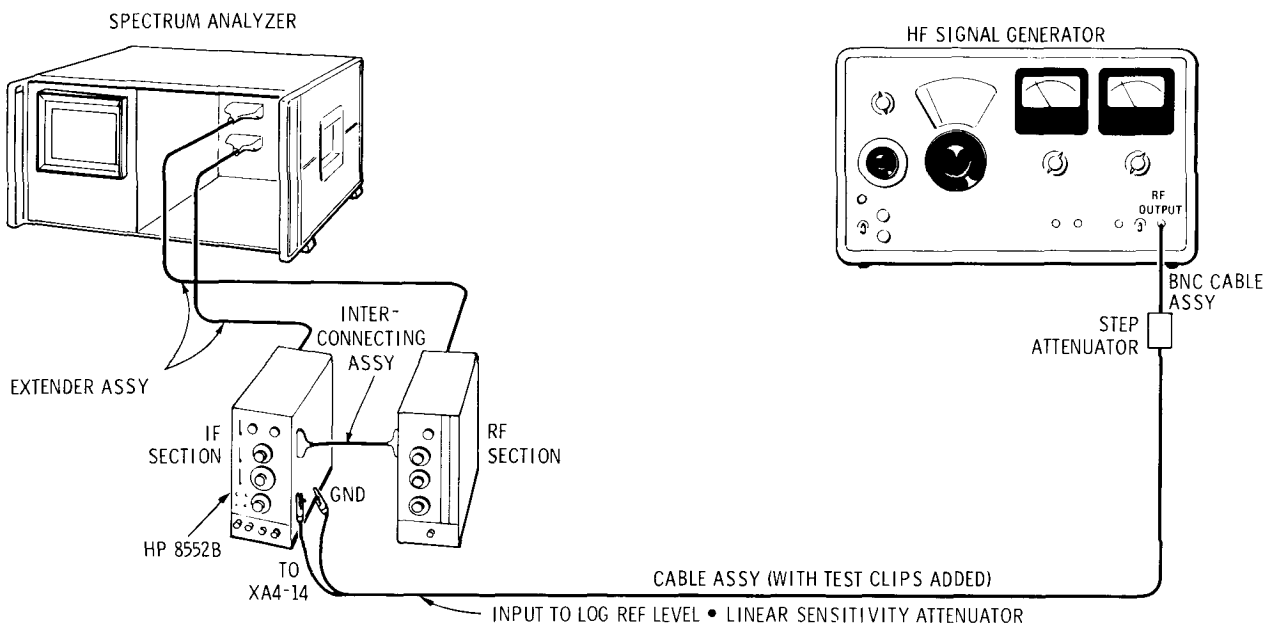

Figure 5-5. Vertical Deflection Amplifier Test Setup
2. Connect the test setup shown in Figure 5-5, turn analyzer power ON, and set controls as follows: